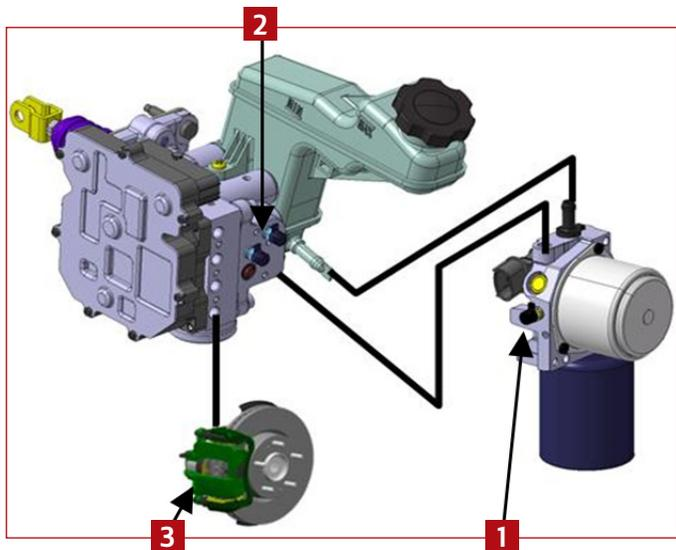

Fig. 7.
- Pressure Bleed at PSU **1** (fig. 7)
- Pressure Bleed at iBAU **2** (fig. 7)
- Pressure Bleed at Calipers **3** (fig. 7)